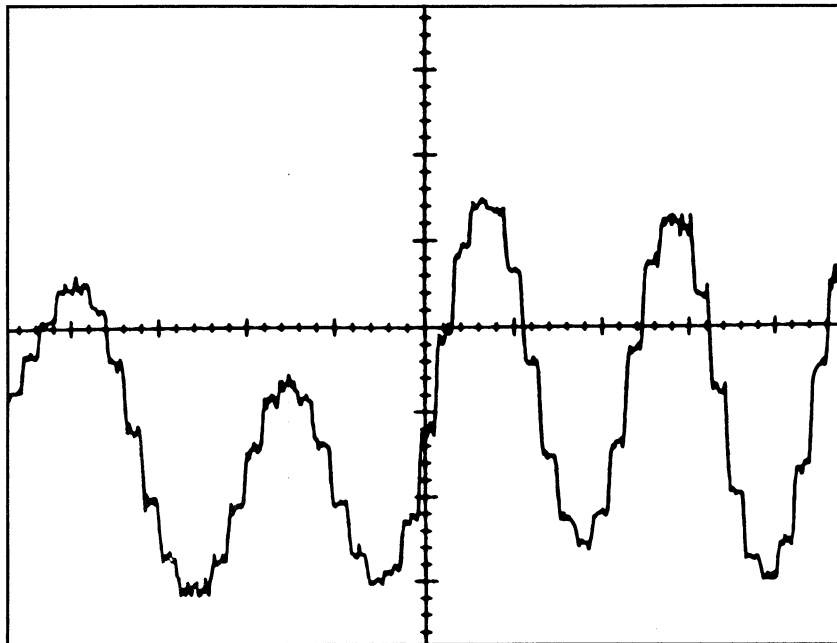

Figure 7. Mod Comp Frequency Step Waveform
- Step 2. Look on the oscilloscope and make sure the repeater is transmitting a clean multiple frequency step waveform as in Figure 7.
Step 4. Look on the oscilloscope and make sure the repeater is transmitting a clean multiple frequency step waveform as in Figure 7.